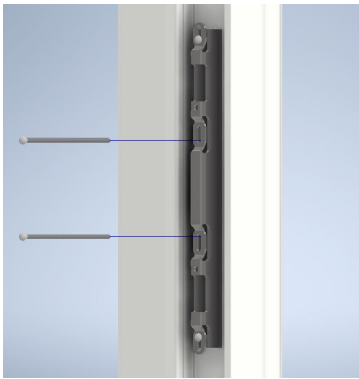

FIGURE 18
18. **For Two Panel Doors only, install the two 4" pan head screws (supplied) through the middle two holes of the lock keeper that is installed in the side jamb of the door frame. Screws are to be installed through the keeper and side jamb of the door and into the rough framing (Figure 18).**